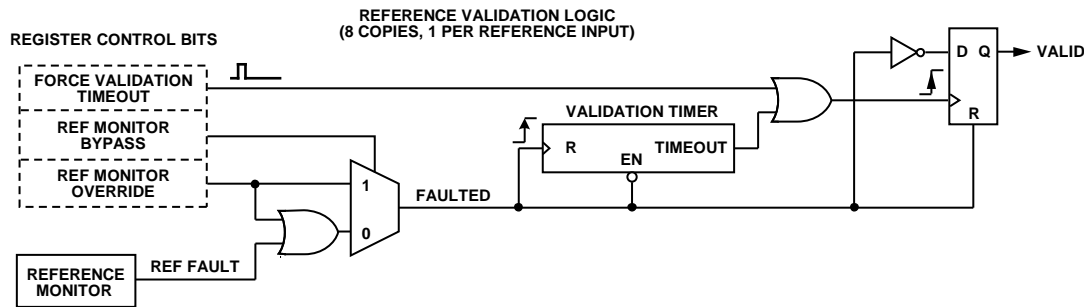

Figure 34. Reference Validation Override
Register 0A0E to Register 0A10 provide the user with the ability to override the reference validation logic enabling a certain level of troubleshooting capability. Each of the eight input references has a dedicated block of validation logic as shown in Figure 34. The state of the valid signal at the output is what defines a particular reference as valid (1) or not (0), which includes the validation period (if activated) as prescribed by the validation timer. The override controls are the three control bits on the left side of the diagram.